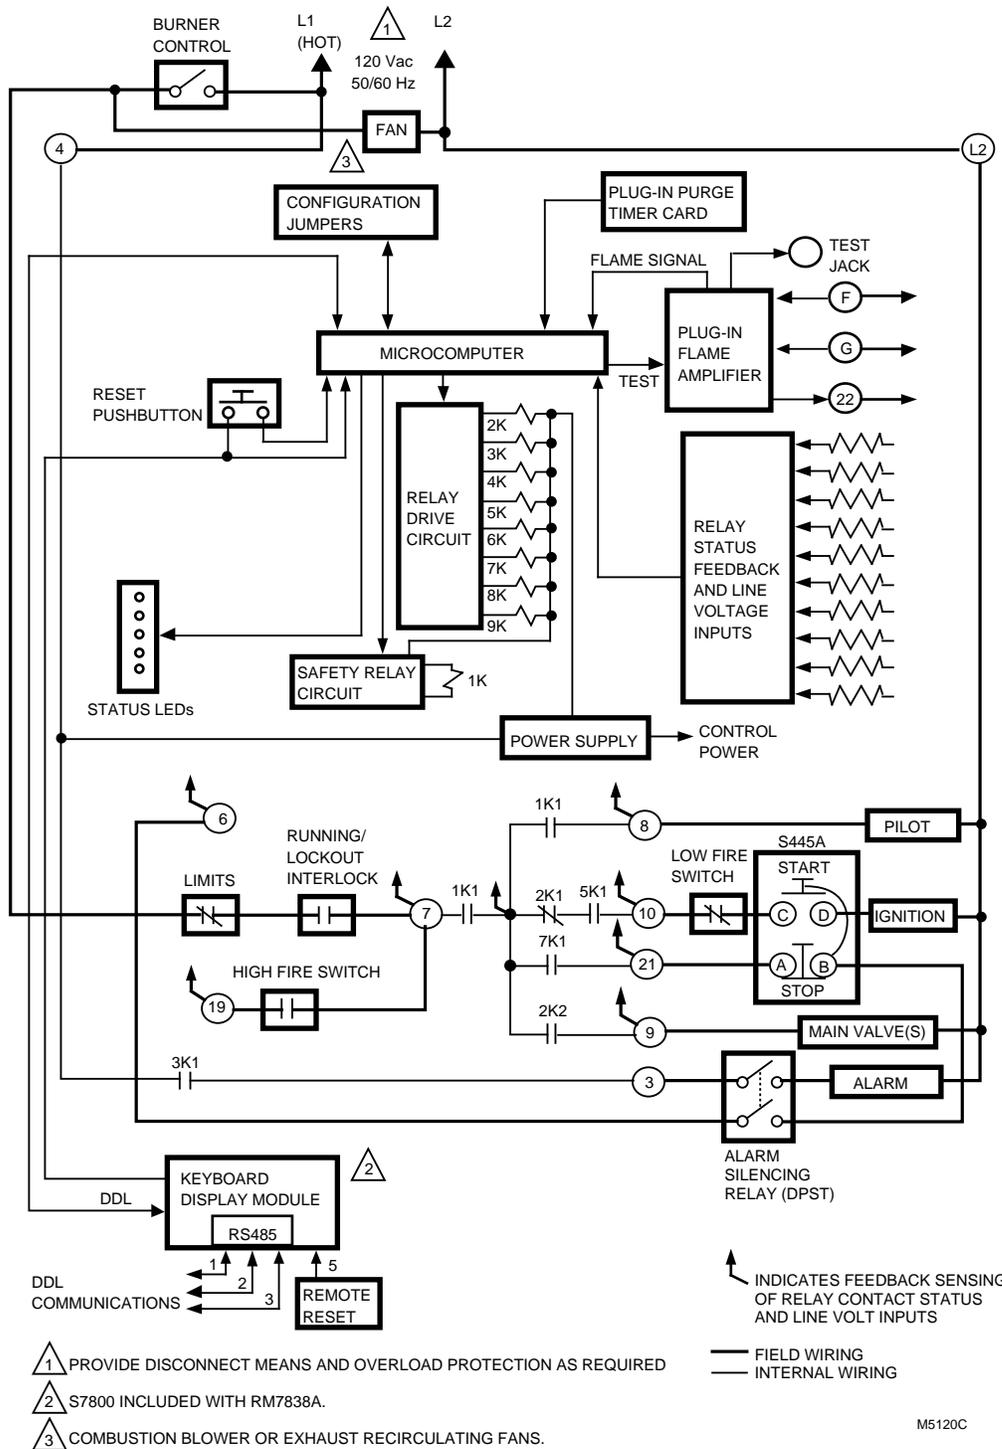

Fig. 2. Internal block diagram of the RM7838A (see Fig. 2 for detailed wiring instructions).
1. *Wiring connections for the relay module are unique; refer to Fig. 2 or the correct Specifications for proper subbase wiring and sequence charts.*
1. For proper subbase wiring and sequence chart, see Fig. 2.